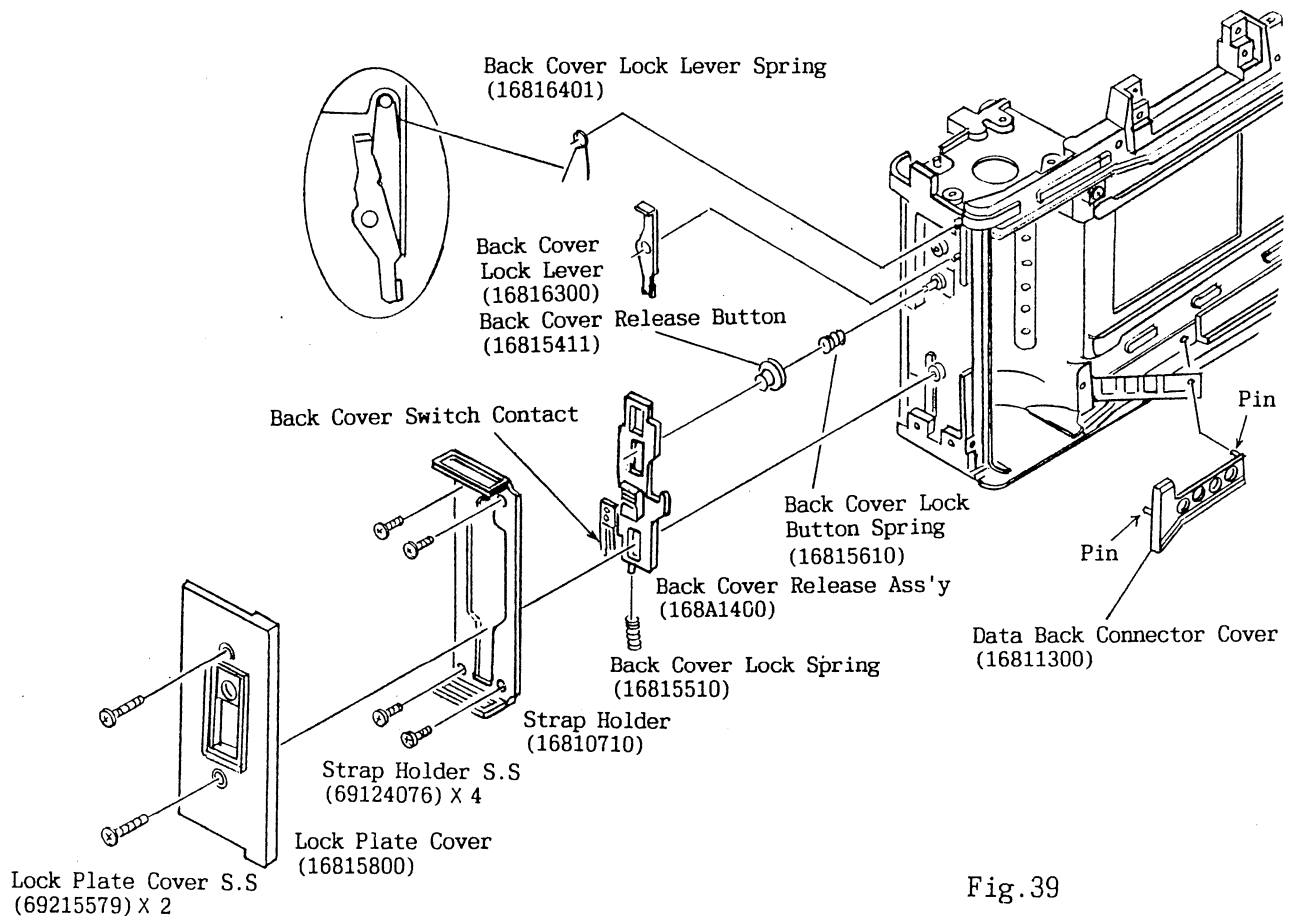

Fig.39
5) Remove the Data Back Connector Cover (16811300). (See Fig.39)